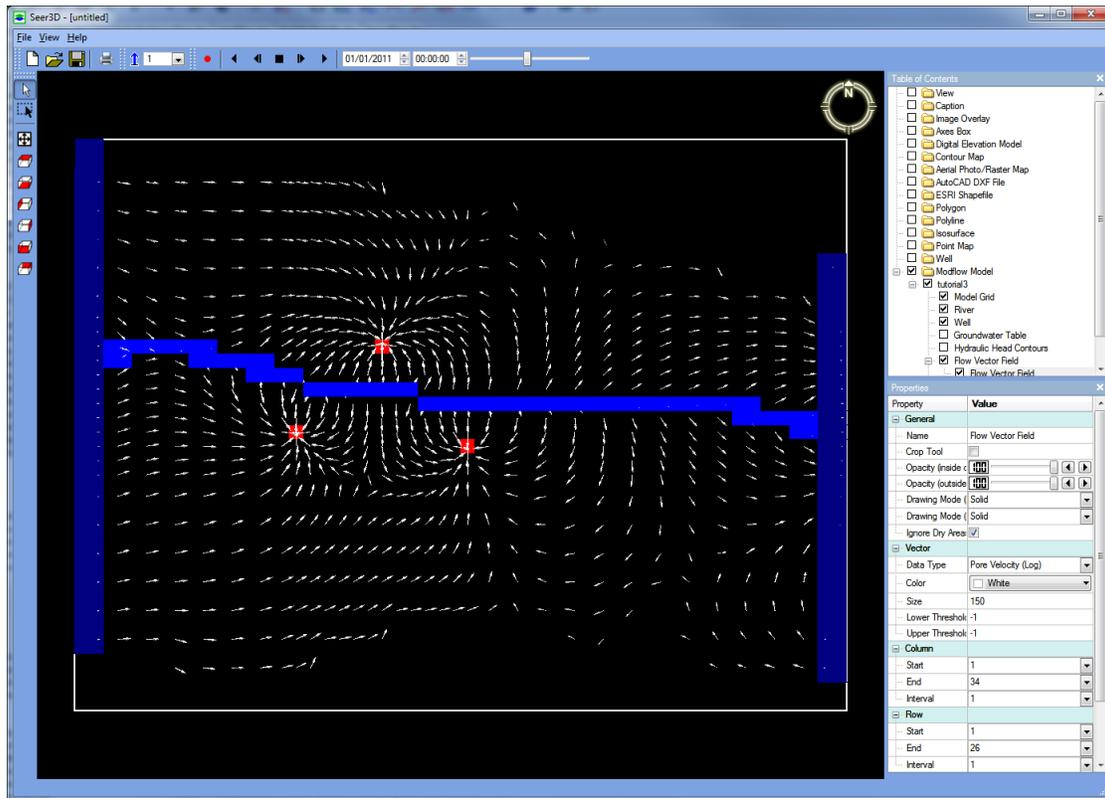

Figure 3.6. The flow field of model with flow vectors converge on three pumping wells represented by red rectangles.
2. Select *Create New Object* from the popup menu. The flow vectors will be created and displayed with the default settings and a new Flow Vector item will be added to the TOC (Figure 3.6).